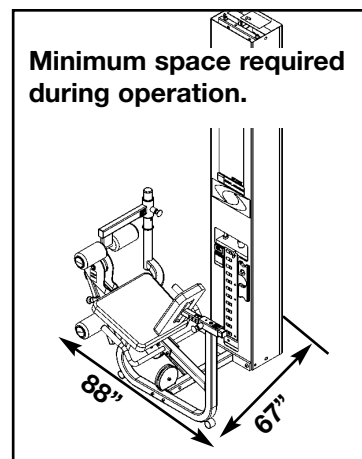

Figure 2
- E.** For Modular/Tandem configurations, allow a minimum of 88" x 67". See Figure 2.